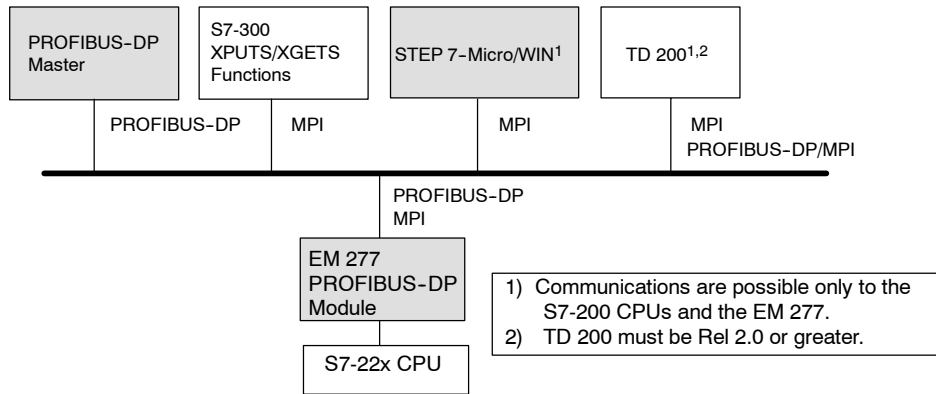

Figure A-26 PROFIBUS-DP/MPI Network
A maximum of six connections (six devices) in addition to the DP master can be connected to the EM 277 PROFIBUS-DP module. One connection is reserved for a programming device (PG) and one is reserved for an operator panel (OP). The other four connections can be used by any MPI master. In order for the EM 277 PROFIBUS-DP module to communicate with multiple masters, all masters must be operating at the same baud rate. See the Figure A-26 for one possible network configuration.